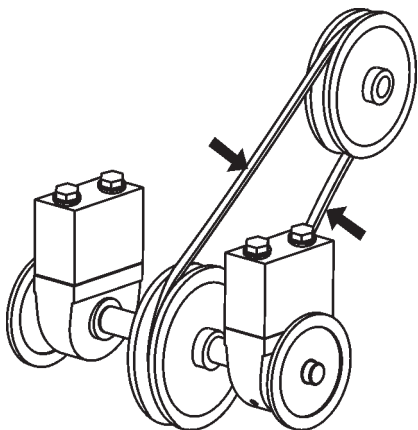

Figure 8. V-Belt Tension Check
3. Check V-belt tension by using a tension meter (6.0 - 9.0 lbs.) against the inside belt at a mid point between the two pulleys, or by deflecting the center belt at a mid point 3/8" (10 mm) to 1/2" (13 mm). See Figure 8.